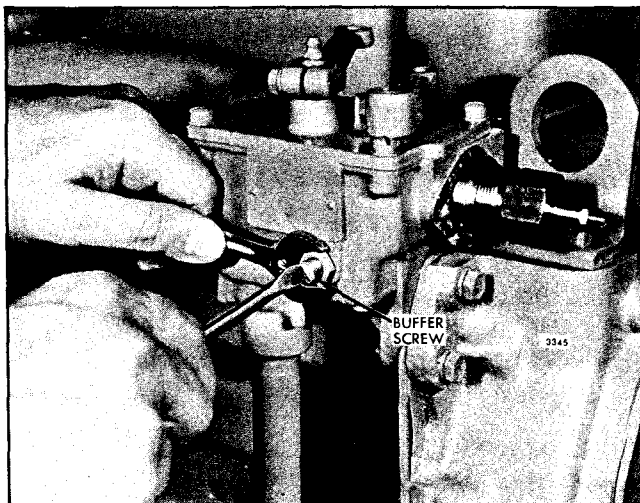

Fig. 8 - Adjusting Buffer Screw
2. Back out the buffer screw (Fig. 8) until it extends approximately 5/8" from the lock nut.
1. With the engine running at normal operating temperature, turn the buffer screw in (Fig. 8) so it contacts the differential lever as lightly as possible and still eliminates engine roll.
3. Start the engine and loosen the idle speed adjusting screw lock nut. Then adjust the idle screw (Fig. 8) to obtain the desired engine idle speed. Hold the screw and tighten the lock nut to hold the adjustment.